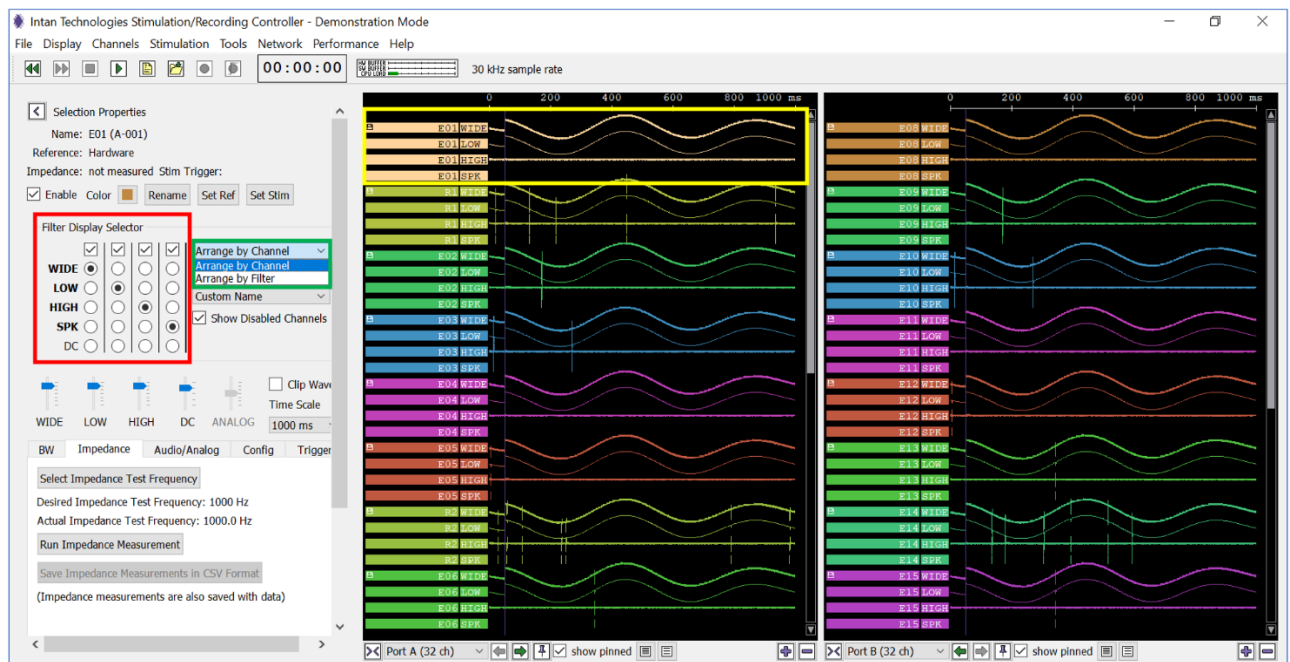

Fig. 45: GUI with additional waveforms selected in Filter Display Selector (red box).
The Filter Display Selector in the Control Panel (red box in **Fig. 45**) allows you to show different versions of the amplifier waveforms and to customize their arrangement. Each amplifier channel can be shown as a wideband signal (WIDE, unfiltered), a low-pass filtered signal (LOW), a high-pass filtered signal (HIGH), a spike raster (SPK), and a low-gain DC amplifier signal (DC). The default setting when the software starts is a checked box over the leftmost column, and WIDE waveform is selected. You can change the selection from WIDE to LOW, HIGH, or SPK while data acquisition is running, and the waveforms in the display will change to these various filtered versions of each amplifier channel. Bear in mind that this selection only affects the displayed waveforms, NOT the waveforms that are being saved (see below for more information). Notice also that the right side of the waveform tags change to reflect the filter currently displayed.
You can check up to three additional square boxes at the top of the Filter Display Selector (red box in **Fig. 45**) to display additional waveforms for each amplifier channel: (i) a low pass filtered waveform, (ii) a high pass filtered waveform, (iii) a spike filter, and (iv) a DC waveform. Additionally, you can select the order for them to be displayed by clicking on the round boxes in the “Filter Display Selector” section. The red box in **Fig. 45** shows an example where four additional waveforms are selected to be displayed in sequential order.
You can arrange the waveforms to be displayed by Channel or the type of Filter using the pull down the Arrange by Channel combo menu (green box in **Fig. 45**). Arranging
the waveforms by channel displays all selected waveforms of a given electrode together, as shown in **Fig. 45** (yellow box). Arranging the waveforms by filter shows the waveforms of all electrodes with the first selected filter first, followed by the other selected filters.